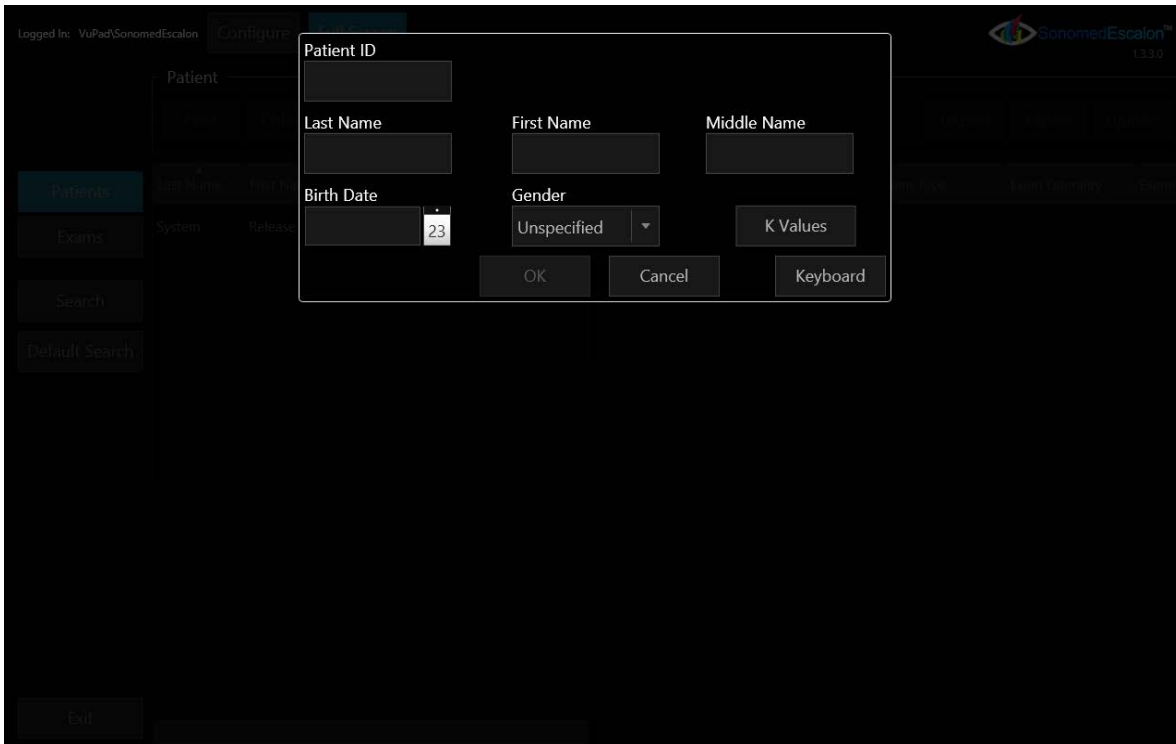

Fig. 3
- ② **ENTER NEW PATIENT** Information into the appropriate fields (see Fig. 3)